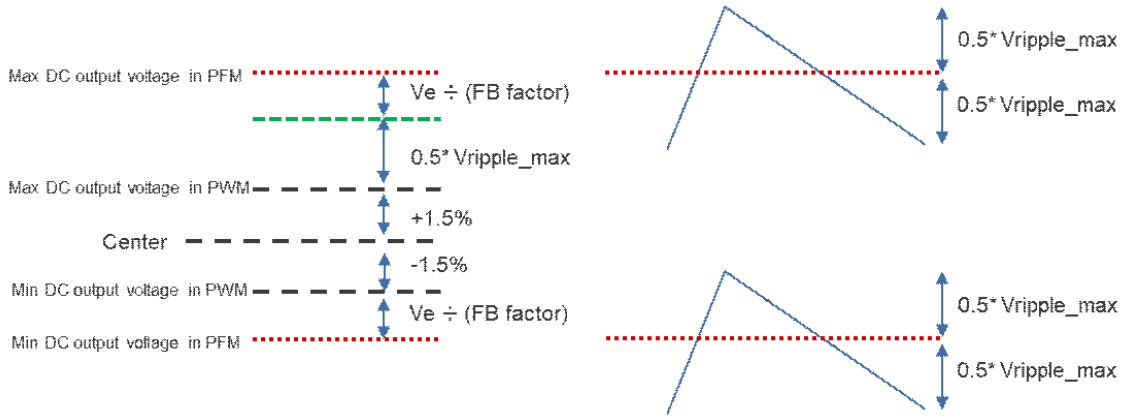

Figure 16. Buck[3-5] Output Voltage during PFM Mode
*Note:* The output voltage accuracy for Buck[3-5] in PFM mode is slightly different from PWM mode. Figure 16 and the following information show the factors involved: